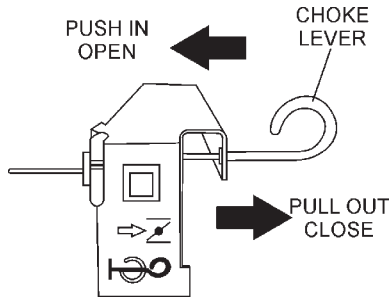

Figure 5. Choke Lever
- Place the **choke lever** (Figure 5) in the **CLOSED** position if starting a **cold** engine.
- Place the **choke lever** (Figure 5) in the **OPEN** position if starting a **warm engine** or the **temperature is warm**.
- If the engine has started, slowly return the choke lever (Figure 5) to the **OPEN** position. If the engine has not started, repeat steps 1 through 5.